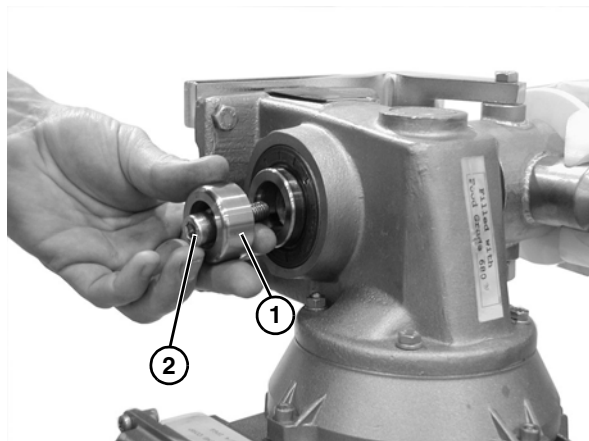

Figure 13
4. Attach the bore plug (**Figure 13, item 1**) and tighten the socket head screw (**Figure 13, item 2**). Snap cover onto bore plug (**Figure 13, item 1**).